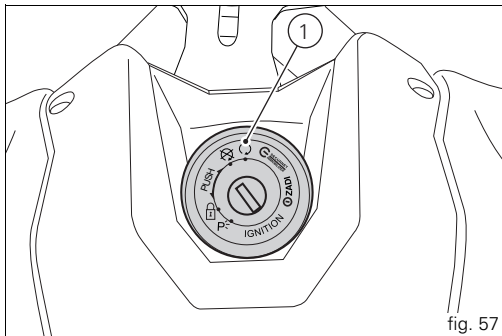

fig. 57
- 1) Move the ignition key to ON (1, fig. 57). Make sure both the green light N and the red light  on the dashboard come on.